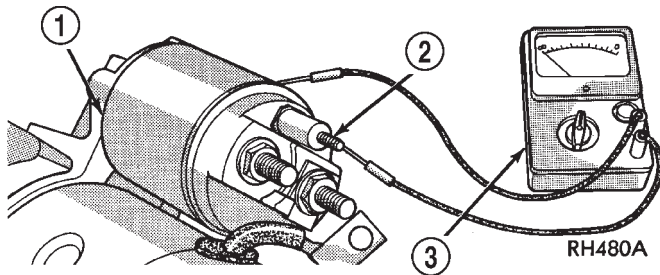
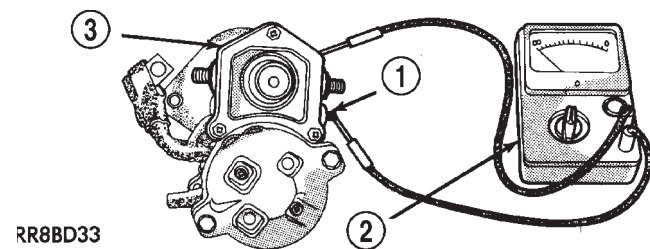

Fig. 9 Continuity Test Between Solenoid Terminal and Solenoid Case - 2.5L Engine - Typical
Fig. 10 Continuity Test Between Solenoid Terminal and Solenoid Case - 3.9L, 4.7L, 5.9L Engine - Typical
(4) Check for continuity between the solenoid terminal and the solenoid case (Fig. 9) or (Fig. 10). There should be continuity. If not OK, replace the faulty starter motor assembly.